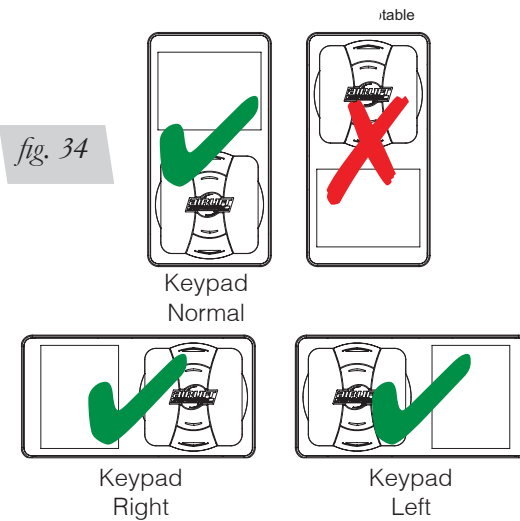

fig. 34
4. The keypad on the 3H/3P display can be rotated for horizontal applications but it must not be rotated so that the keypad is above the screen (fig. 34). It will not power up in this position.